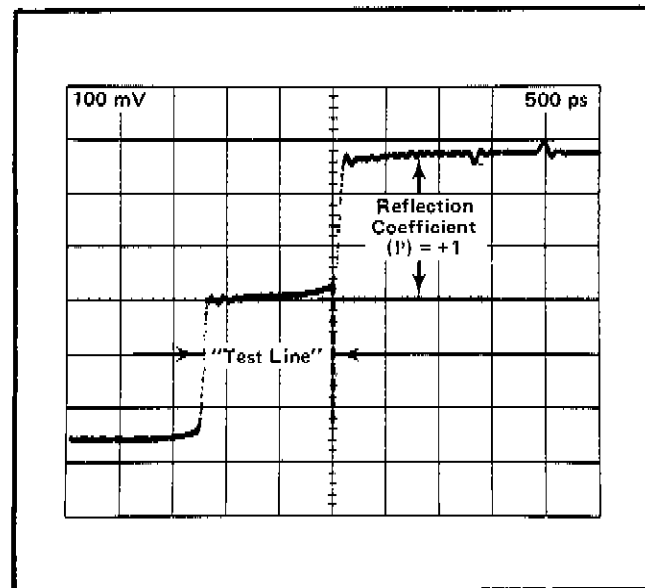

Fig. 2-3. Display with unterminated "Test Line".
14. Add a short length of 50 Ω coaxial cable to the same connector. (This example uses a 500 ps, 50 Ω , semi-rigid coaxial cable with a length of about 4 inches). See Fig. 2-3. The open line shows a reflection coefficient (ρ) of about +1.